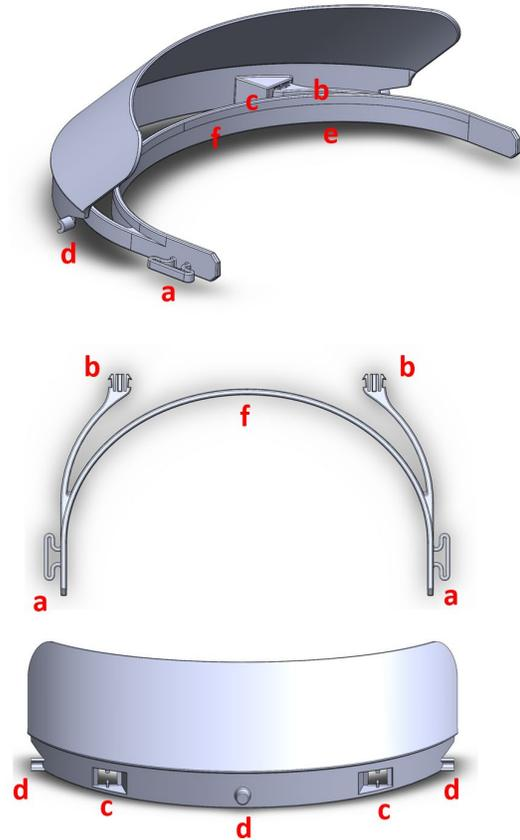

Fig. 2: an assembled cradle along with the components of the cradle-band and cradle-visor
4. Take a single cradle band and identify the attachment posts labeled (“a” in **Fig. 2**) and the male buckles labeled (“b” in **Fig. 2**)
5. Take a single cradle visor and identify the female buckles labeled (“c” in **Fig. 2**) and the pegs labeled (“d” in **Fig. 2**)
7. Take a single Cradle and Identify the flat face, this will indicate the bottom of the Cradle (label “e” in **Fig. 2**).
8. (Optional) Place a strip of micro-foam surgical tape on the inside edge of the Cradle (label “f” in **Fig. 2**) to increase comfort while wearing the face shield.
9. Take one elastic strap and slide it through the two attachment posts(d) on either side of the Cradle positioning it one hole in from the edge of the elastic strap (label “b” in **Fig. 2**).
10. Holding the Cradle in your non-dominant hand, secure one of the outer holes in the Shield to the Cradle peg (label “d” in **Fig. 2**). Pull the Shield across the Cradle so that the middle and remaining edge holes line up with the pegs on the Cradle. The shield should gently snap into place.